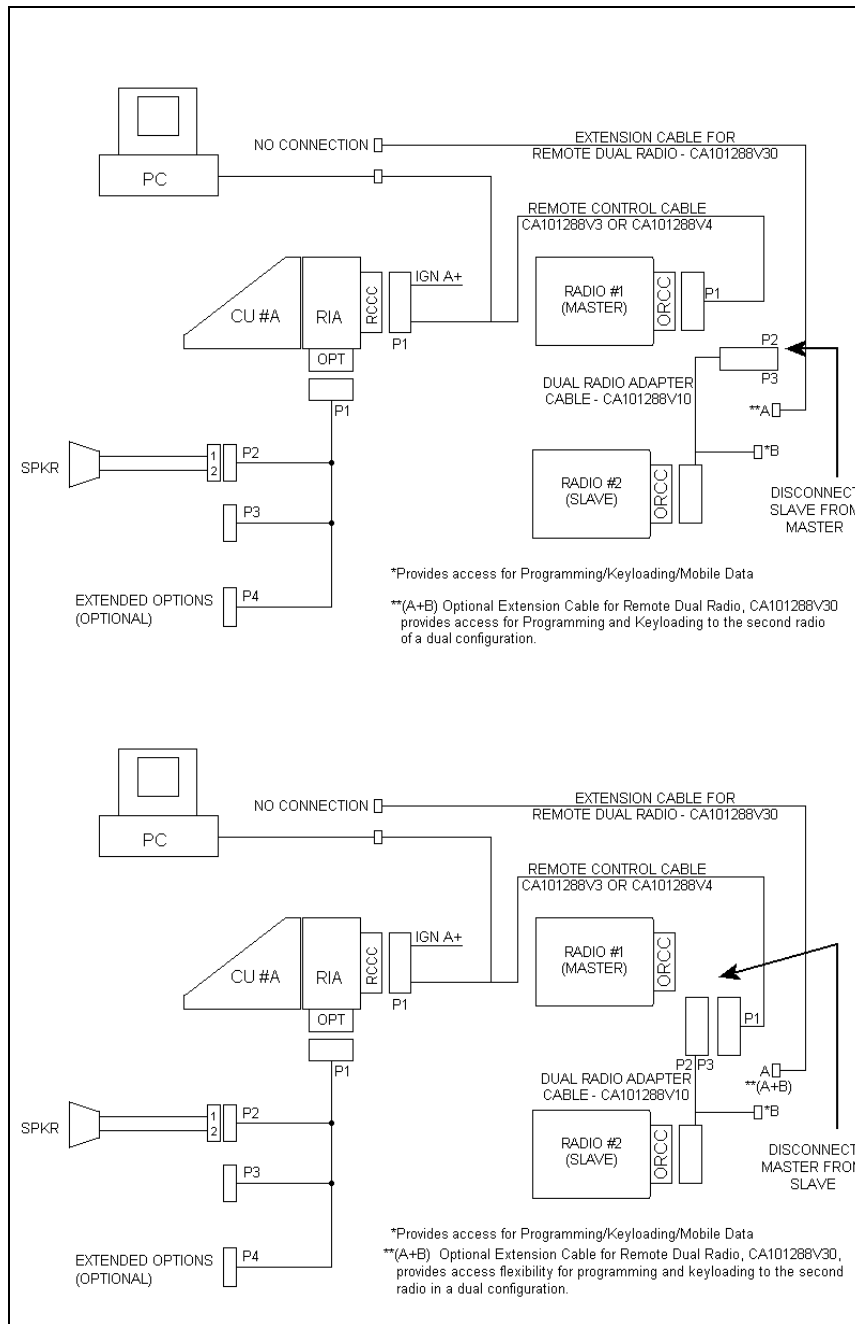

Figure 11-4: Dual Radio Configuration – Remote/Remote Mount PC Programming Procedure
1. Connect the M7100^{IP} Master Radio per the ProGrammer setup as shown in Figure 11-4, Step 1 with the Slave Radio disconnected. Program the Master Radio with the control configurations per the Pre-Installation Programming Procedure with ProGrammer – Dual Radio Units and adjust as necessary for the desired application.
2. Connect the Slave Radio with ProGrammer as shown in Figure 11-4, Step 2. The Master Radio should now be disconnected, with the Slave Radio connected as indicated. Program the Slave Radio with the configuration per the Pre-Installation Programming Procedure with ProGrammer – Dual Radio Units and adjust as necessary for the desired application.